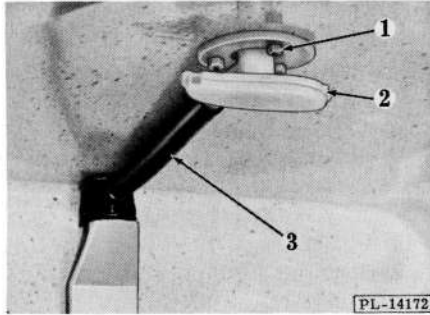

Fig. 33
Constant Wash/Rinse System (Fig. 33)
1. Remove the three nuts (1, Fig. 33) that retain the upper spray unit (2, Fig. 33).
2. Remove upper spray manifold from supply tube (3, Fig. 33).